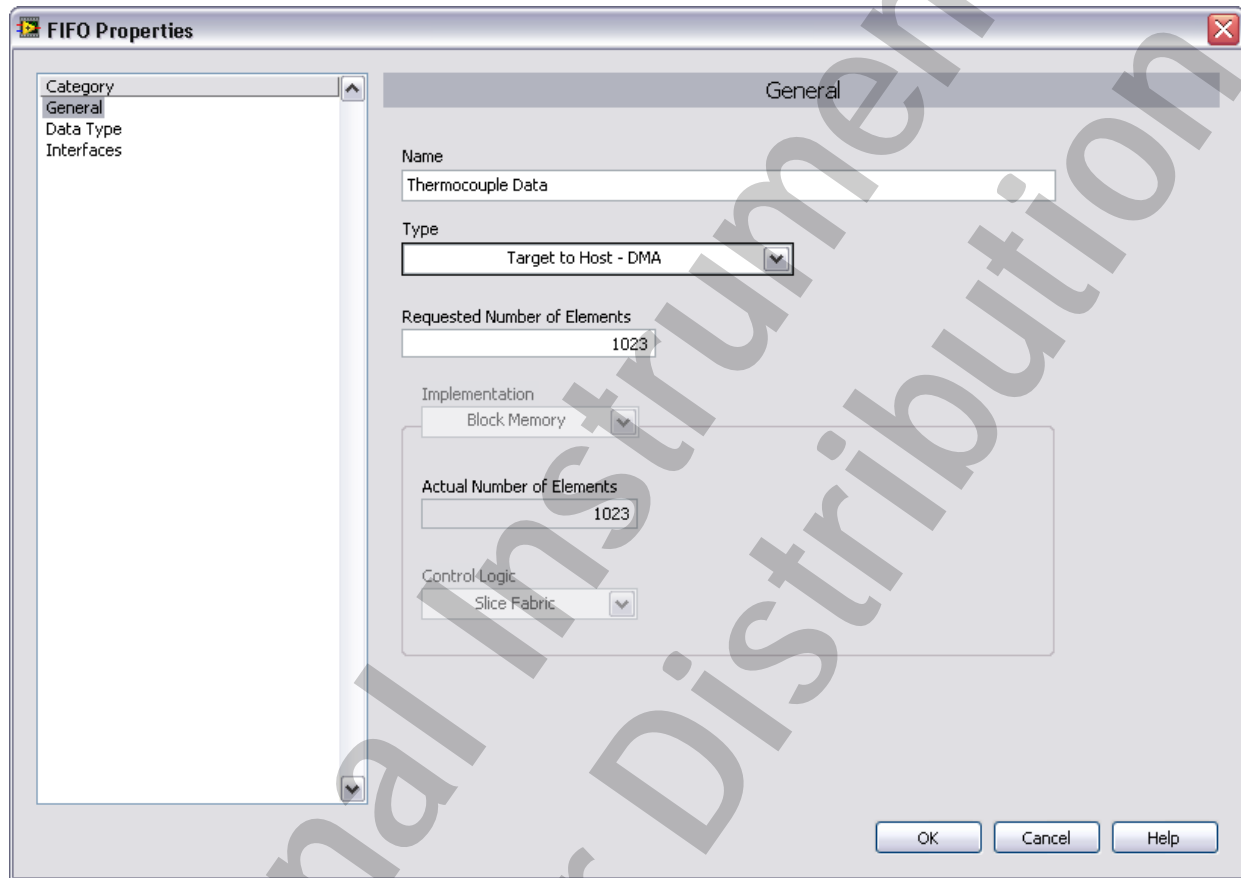

Figure 9-11. Thermocouple Data Properties – General
- ☐ Configure the FPGA FIFO Properties, as shown in Figure 9-11.